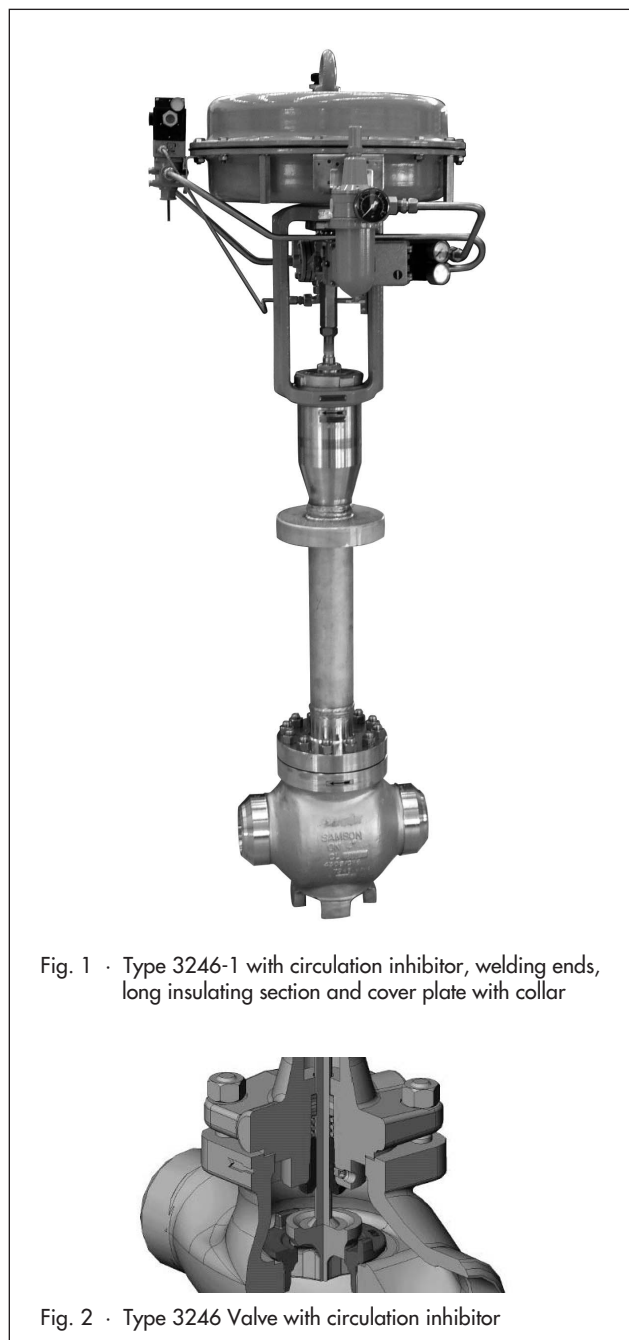

Fig. 1 · Type 3246-1 with circulation inhibitor, welding ends, long insulating section and cover plate with collar
- **Type 3246-1** (Fig. 1) · With Type 3271 Actuator with 350 to 2800 cm² effective diaphragm area (refer to T 8310-1 EN and T 8310-2 EN)